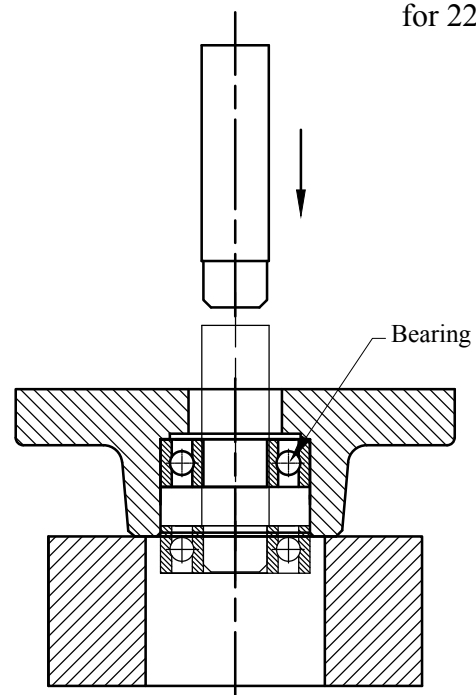

Fig. 5
8. Use an arbor press to press out the air motor bearings. Refer to fig. 5.